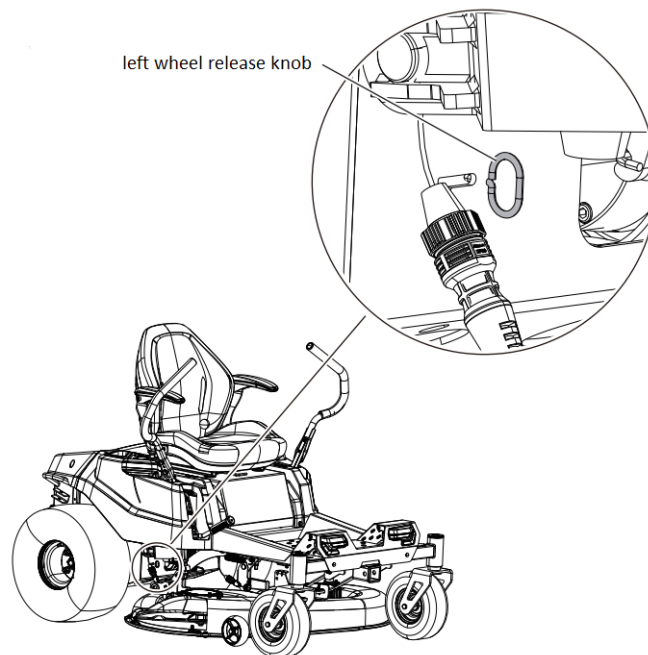

Fig.2
2. Reset the tension spring (as shown in Fig.2), then the motor brake on this side is re-engaged and locking the rear wheel.